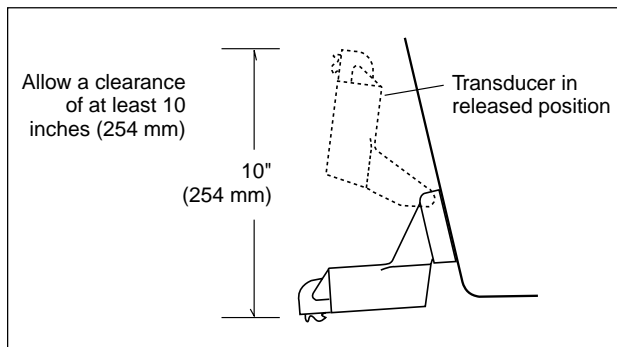

Fig. 2-4
- The bracket has a quick-release mechanism. This may reduce damage by allowing the transducer to flip up if it hits any debris or the bottom. See Fig. 2-4. Allow enough clearance above the transducer so that it can swing upward completely. This is about 10" (254 mm)